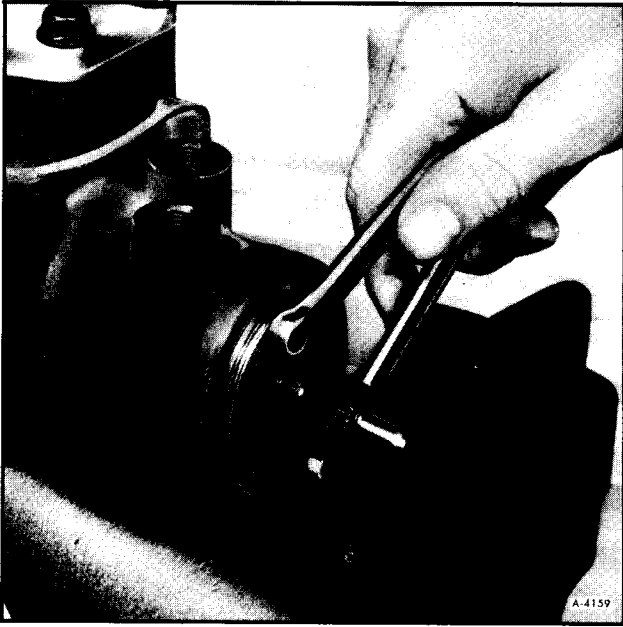

Figure 58—Turning Adjuster Plug
a. Using spanner wrench J-7624, turn adjuster plug in (clockwise) until the plug and thrust bearing are firmly bottomed (approximately 20 ft. lbs.) (figure 58).
3. Turn the adjuster plug in (clockwise) until the plug and thrust bearing are firmly bottomed — approximately 20 ft. lb. (figure 58).